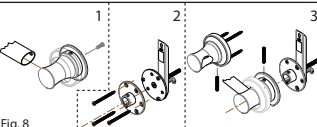

Fig. 8
20. Use the 10-24 machine screws that are supplied with the wall anchor to fasten the product to each wall anchor. Three (3) machine screws are needed to fasten the product to the wall anchor and they need to be securely fastened with a #2 Phillips screwdriver. (Fig. 8)